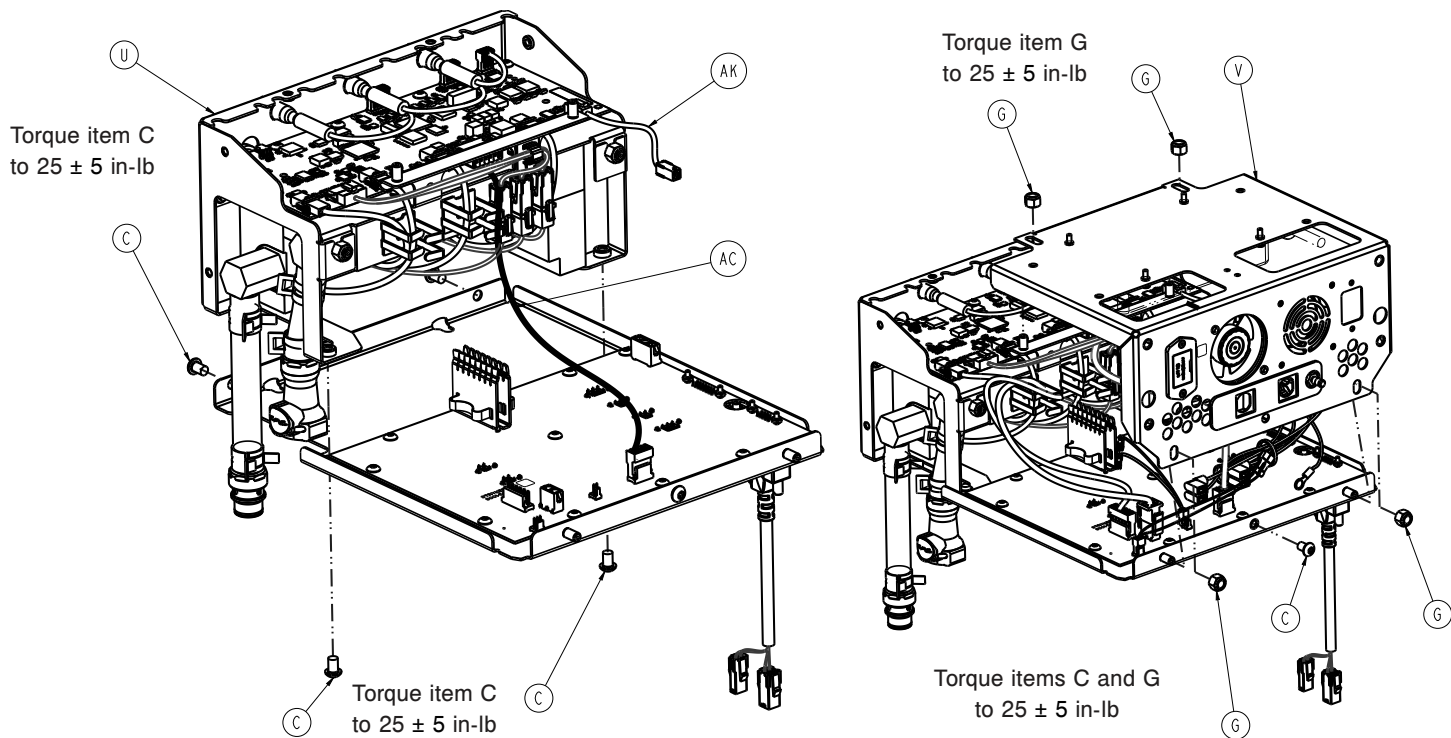

Figure 32 – Power supply
10. Using a 7/16" socket remove and save the four lock nuts (G) that secure the power supply mount to the control assembly (Figure 32).
11. Using a T27 torx, remove and save the screw (C) that secure the power supply mount to the control assembly (Figure 32).